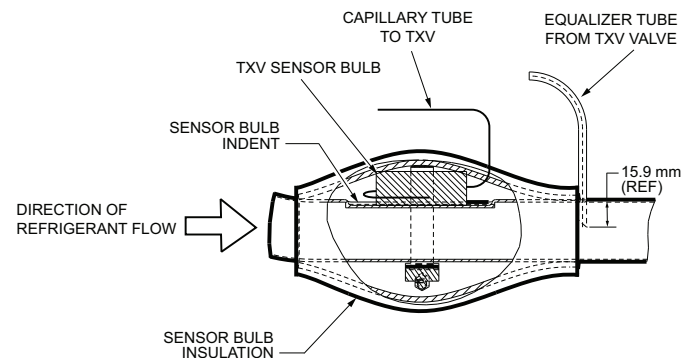

Fig. 21 — TXV Sensor Valve Insulation
10. Attach the TXV bulb in the same location as the original (in the sensing bulb indent), wrap the bulb in protective insulation and secure using the supplied bulb clamp. See Fig. 21 and 22.